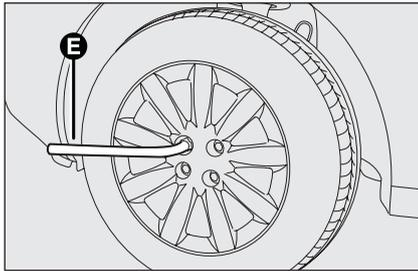

fig. 12
- ❑ loosen the bolts of the wheel to be replaced by about one turn with the wrench provided **E**-fig. 12; if the car is fitted with alloy rims, shake the car to facilitate removing the rim from the wheel hub;